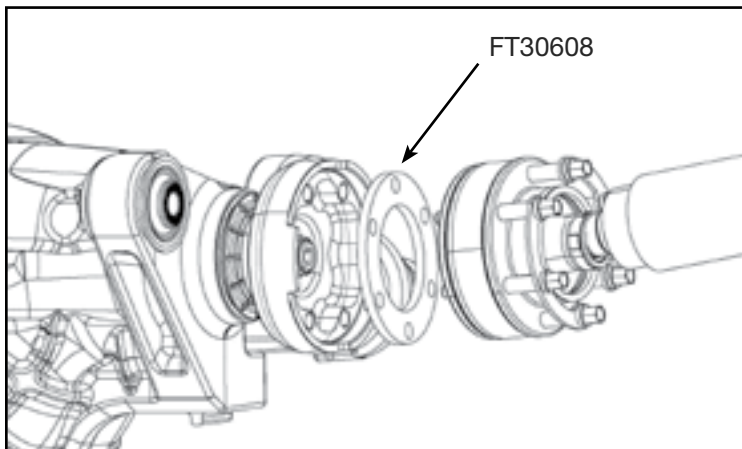

FIGURE 38 - STEP 30
30. Install FT30608 (Driveshaft spacer) using the factory hardware and torque to 35 ft-lbs. **SEE FIGURE 38**